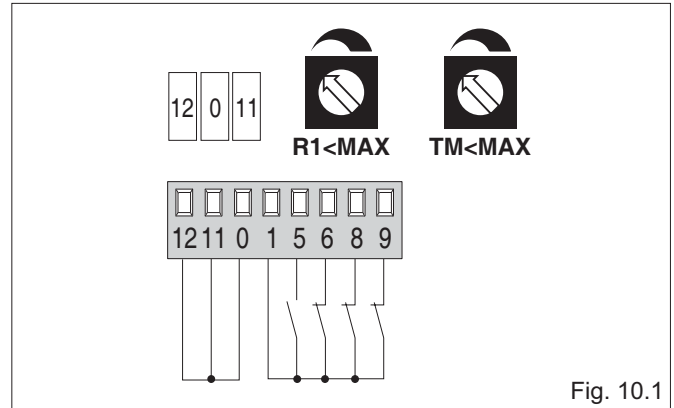

Fig. 10.1
- (Fig. 10.1) The leaf pushes onto mechanical stops and stops on obstacles.